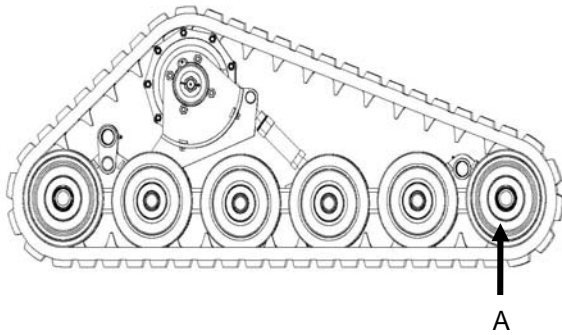

Figure 12-14
5. Locate the wheel marked "A" in fig. 12-14.